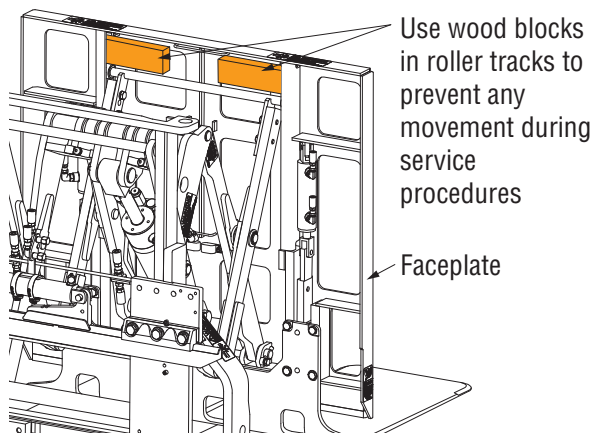

Figure 6-1, Block Rollers
1. Install wood blocks in the roller tracks as shown in Figure 6-1, to prevent the rollers from moving. The tracks will accept a piece of 2 x 4 (nominal). Use zip ties to secure the blocks in place. Remove blocks and ties before returning the attachment to service.